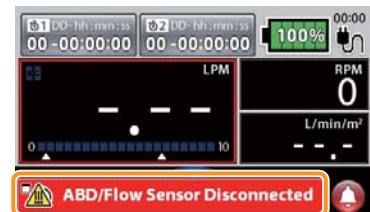

Figure 5-4
- “ABD/Flow Sensor Disconnected” is displayed on the message area and an alarm sounds. (Figure 5-4)